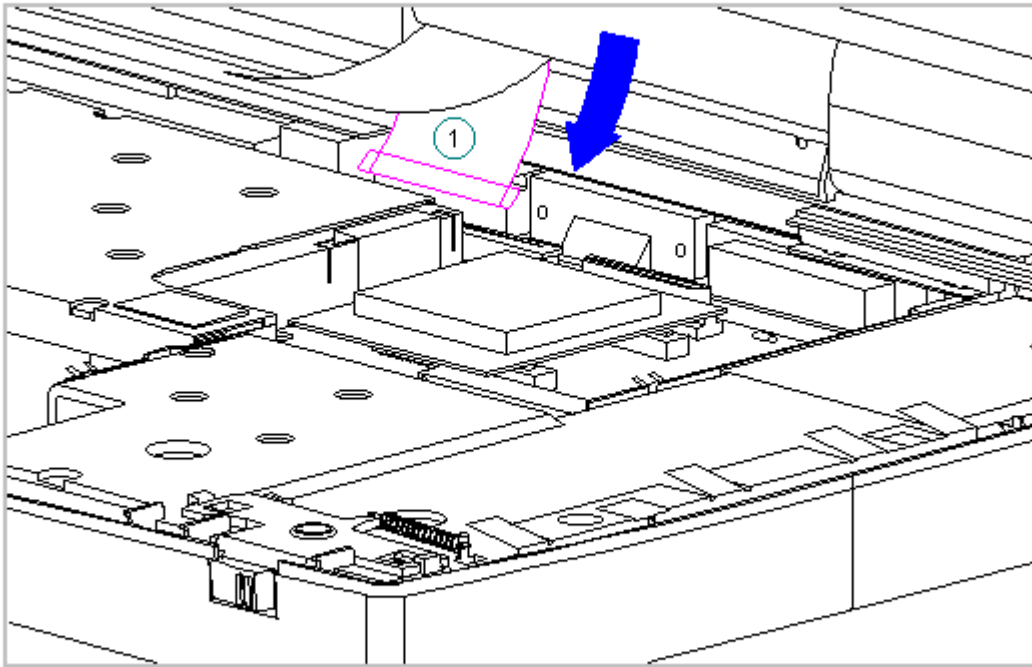

Figure 3-156. Connecting the Display Ground Cable (Models 420 and 430)
10. Connect the display ground cable [1] from the LIF clip above the serial port connector (Figure 3-156).